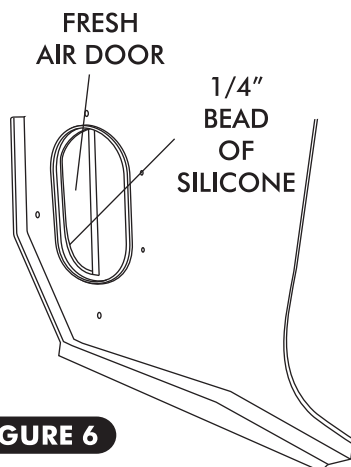

FIGURE 6
- ☐ REMOVE THE PASSENGER SIDE KICK PANEL BY REMOVING THE (2) #10 x 1" PH PAN HEAD SCREWS, DISCONNECT THE FRESH AIR CABLE FROM DOOR AND DISCARD CABLE ASSEMBLY. CLOSE FRESH AIR DOOR ASSEMBLY IN KICK PANEL AND SEAL DOOR w/ 1/4" BEAD OF SILICONE AROUND DOOR AS SHOWN IN FIGURE 6.